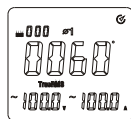

Figure 11-1
4) As shown in Figure 11-1, please press SELECT key to select the 1st phase location of ϕ 1 for three-phase four-wire system of load. It also can display apparent power, voltage and current of phase location of ϕ 1.